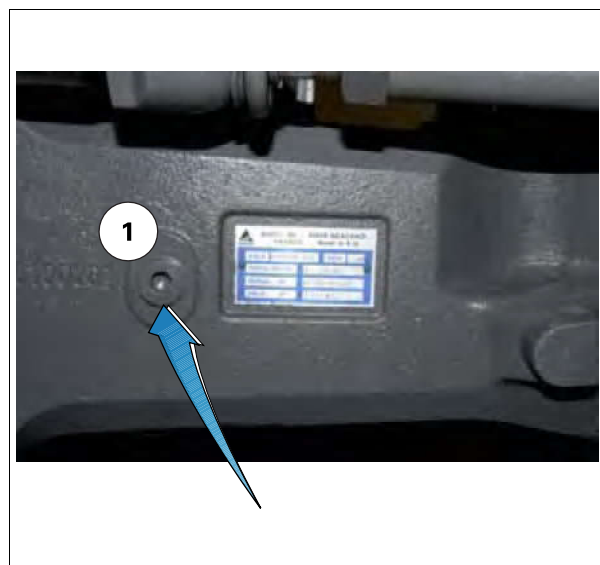

Fig. 3.
2. Unscrew the drain plug (2) and the filler plug (1) fig. 3. Allow the oil to drain out.